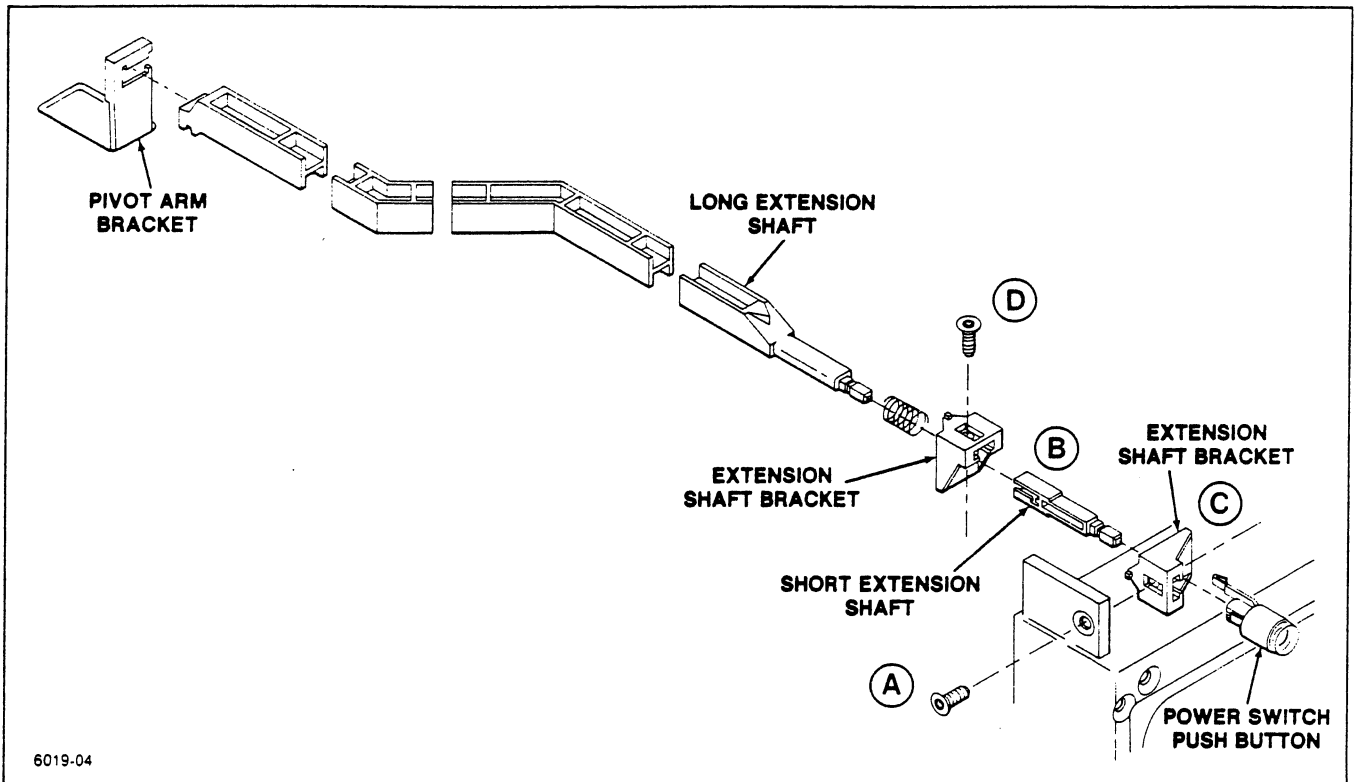

Figure 6-3. Power Switch Push Button Disassembly.
11. Turn the long extension shaft (see Figure 6-3) CCW and unsnap it from the pivot bracket at the rear middle of the Main board, sliding it out of the bracket sideways.
12. Remove the power switch push button mounting screw (item A) shown in Figure 6-3. Separate the long extension shaft from the short extension shaft at point B by inserting a small screwdriver tip in the slot while pulling out on the bracket at point C. Remove the screw (item D) and slide the long extension shaft out the rear of the front frame.